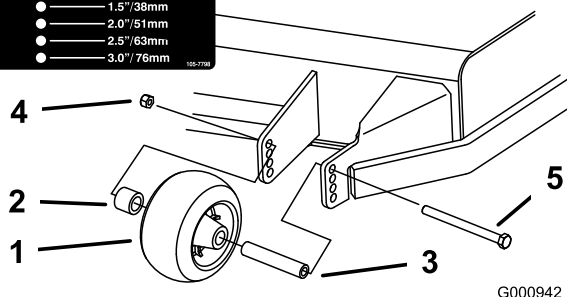
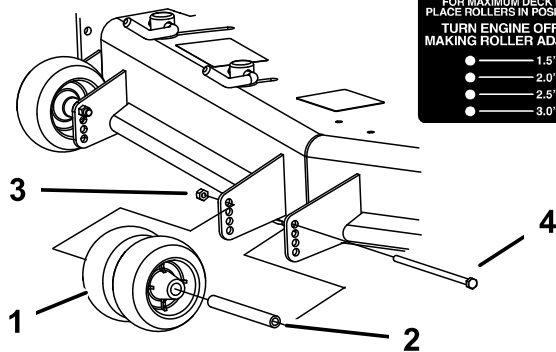
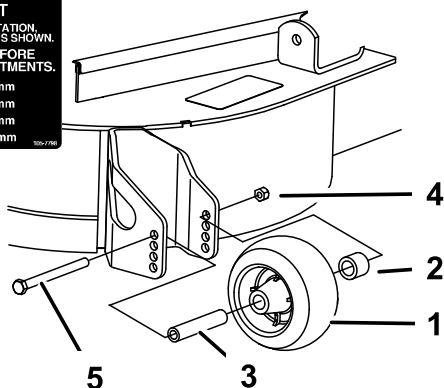

Figure 26
Figure 27
Figure 28
3. Adjust the anti-scalp rollers as shown in Figure 26, Figure 27, and Figure 28.